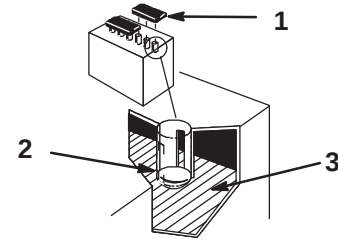

Figure 48
1. Open covers to see into the cells. The electrolyte must be up to the lower part of the tube (Fig. 48).
Important Do not allow the electrolyte to get below the plates. (Fig. 48).
2. Lift off the filler caps (Fig. 48).
3. Slowly pour distilled water into each battery cell until the level is up to the lower part of the tube (Fig. 48).